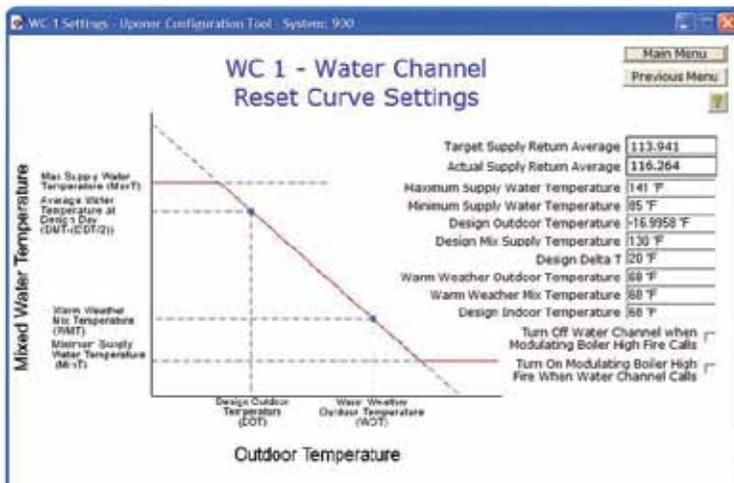

Figure 2.9-7: Water Channel Reset Curve Settings Screen
2. Click on the **Water Channel** button under the Set Up Mix Reset Curve and Settings heading shown in **Figure 2.9-6**. The Water Channel Reset Curve Settings screen, shown in **Figure 2.9-7**, will display.